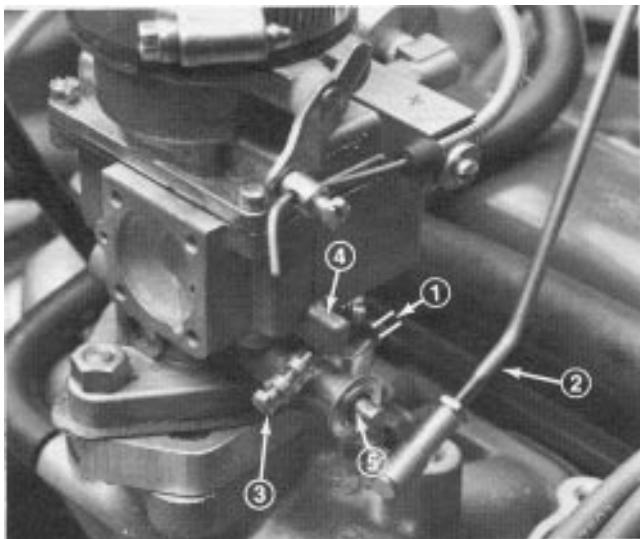

Figure 38
- With engine shut off, move throttle control to FAST position and open hood. Check between the throttle arm and the stop on the carburetor base to make sure there is $1/32"$ (0.8 mm) gap (Fig. 38). If gap is not correct, adjust throttle rod (Fig. 38) by turning ball joint ends until gap is $1/32"$ (0.8 mm). If gap is correct, proceed to step 2.
- Rotate throttle arm closed until it contacts stop (Fig. 38).
- Release throttle arm, loosen jam nut on governor low idle speed screw and adjust it to attain 1500 ± 100 rpm (Fig. 38).